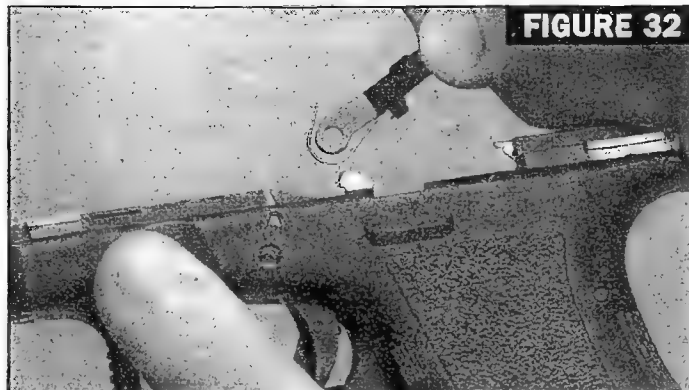

FIGURE 32
- With the trigger pin removed, simply withdraw the slide stop lever by pulling it back (Fig. 32).